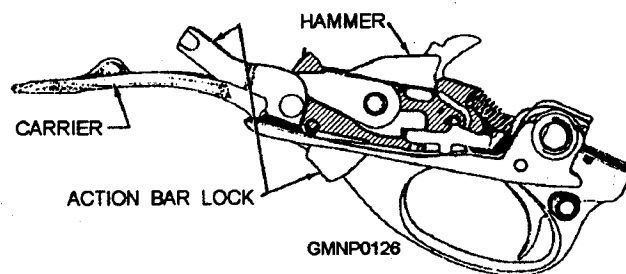

Figure 3-52.—M870 trigger plate assembly.
**MAGAZINE LOAD.**— Push the safety to the **SAFE** position. Slide the fore-end completely forward to close the action. Turn the gun bottom upward and press the shell against the carrier, then forward fully into the magazine. Make sure the rim of the shell snaps past the shell latch to prevent the shell from sliding back over the carrier. Should this occur, open the action or, if necessary, remove the trigger plate assembly (fig. 3-52) if the gun is cocked to remove the shell.